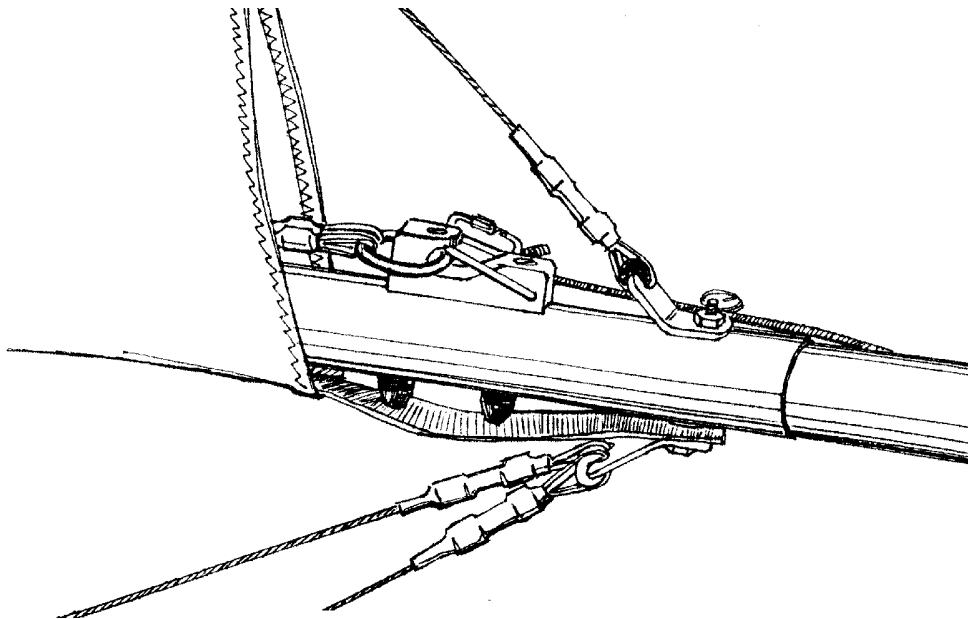

Fig. 27
2.2.9. Pull the crossbar tensioning wires and put the metal ring of the wires on the hook of the stop detail on the keel tube. Take care that reeded spring closes the metal ring in the hook (Fig.27). Effort on the crossbar tensioning wire should not be big.